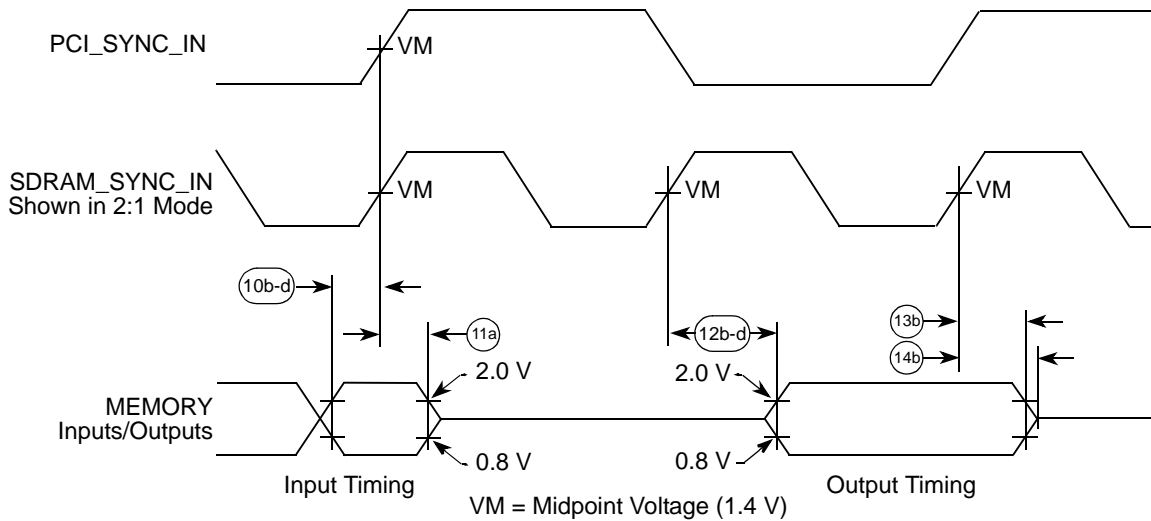
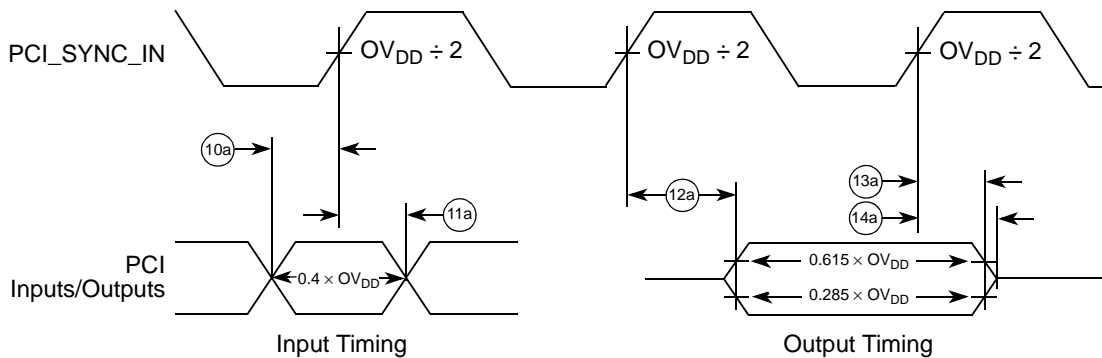
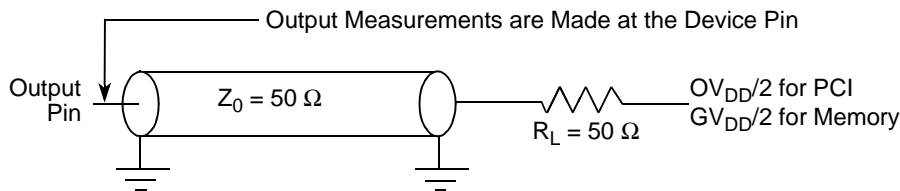
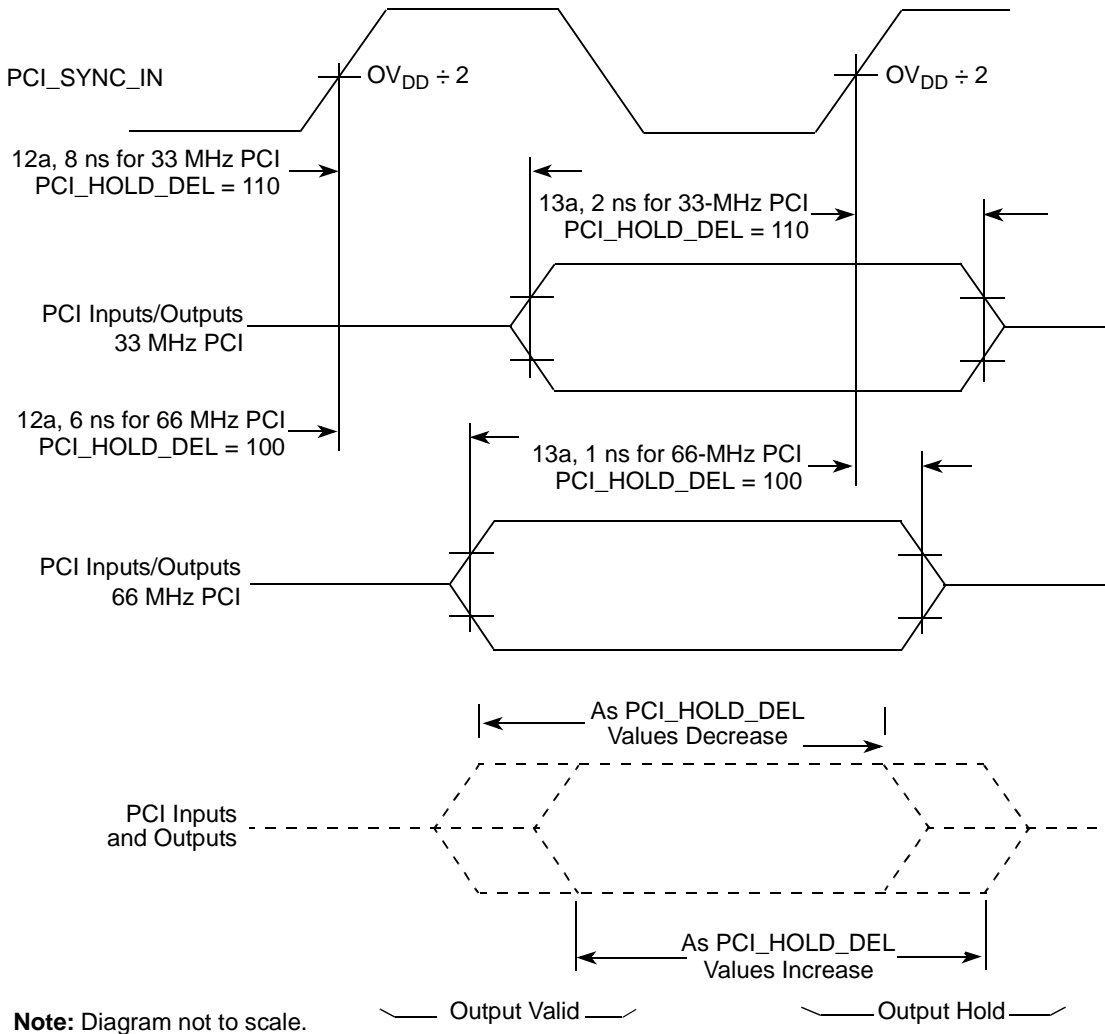

Figure 8. Input-Output Timing Diagram Referenced to SDRAM_SYNC_IN
Figure 9. Input-Output Timing Diagram Referenced to PCI_SYNC_IN
Figure 11. AC Test Load for the MPC8240
Figure 12. PCI_HOLD_DEL Effect on Output Valid and Hold Time
Table 8 provides the input AC timing specifications. See Figure 8 and Figure 9 for the input-output timing diagrams referenced to SDRAM_SYNC_IN and PCI_SYNC_IN, respectively.
- All memory and related interface input signal specifications are measured from the TTL level (0.8 or 2.0 V) of the signal in question to the $V_M = 1.4 \text{ V}$ of the rising edge of the memory bus clock, SDRAM_SYNC_IN. SDRAM_SYNC_IN is the same as PCI_SYNC_IN in 1:1 mode, but is twice the frequency in 2:1 mode (processor/memory bus clock rising edges occur on every rising and falling edge of PCI_SYNC_IN). See Figure 8.
- All PCI signals are measured from $OV_{DD}/2$ of the rising edge of PCI_SYNC_IN to $0.4 \times OV_{DD}$ of the signal in question for 3.3-V PCI signaling levels. See Figure 9.
Table 9 provides the processor bus AC timing specifications for the MPC8240. See Figure 8 and Figure 9 for the input-output timing diagrams referenced to SDRAM_SYNC_IN and PCI_SYNC_IN, respectively. Figure 11 shows the AC test load for the MPC8240.
- All memory and related interface output signal specifications are specified from the $V_M = 1.4 \text{ V}$ of the rising edge of the memory bus clock, SDRAM_SYNC_IN to the TTL level (0.8 or 2.0 V) of the signal in question. SDRAM_SYNC_IN is the same as PCI_SYNC_IN in 1:1 mode, but is twice the frequency in 2:1 mode (processor/memory bus clock rising edges occur on every rising and falling edge of PCI_SYNC_IN). See Figure 8.
- All PCI signals are measured from $OV_{DD}/2$ of the rising edge of PCI_SYNC_IN to $0.285 \times OV_{DD}$ or $0.615 \times OV_{DD}$ of the signal in question for 3.3-V PCI signaling levels. See Figure 9.
- All output timings assume a purely resistive 50-Ω load (see Figure 11). Output timings are measured at the pin; time-of-flight delays must be added for trace lengths, vias, and connectors in the system.
- PCI hold times can be varied; see Section 1.4.2.4.1, "PCI Signal Output Hold Timing," for information on programmable PCI output hold times. The values shown for item 13a are for PCI compliance.
| 6–4 | PCI_HOLD_DEL | xx0 | <p>PCI output hold delay values relative to PCI_SYNC_IN. The initial values of bits 6 and 5 are determined by the reset configuration pins \overline{MCP} and CKE, respectively. As these two pins have internal pull-up resistors, the default value after reset is 0b110.</p> <p>Although the minimum hold times are guaranteed at shown values, changes in the actual hold time can be made by incrementing or decrementing the value in these bit fields of this register through software or hardware configuration. The increment is in approximately 400-picosecond steps. Lowering the value in the 3-bit field decreases the amount of output hold available.</p> <p>000 For Silicon Rev. 1.0/1.1: 66-MHz PCI. Pull-down CKE configuration pin with a 2-kΩ or less value resistor. This setting guarantees the minimum output hold (item 13a) and the maximum output valid (item 12a) times as specified in Figure 9 are met for a 66-MHz PCI system. See Figure 12.</p> <p>001 Reserved</p> <p>010 Reserved</p> <p>011 Reserved</p> <p>100 For Silicon Rev. 1.2/1.3: 66-MHz PCI. Pull-down CKE configuration pin with a 2-kΩ or less value resistor. This setting guarantees the minimum output hold (item 13a) and the maximum output valid (item 12a) times as specified in Figure 9 are met for a 66-MHz PCI system. See Figure 12.</p> <p>For Silicon Rev. 1.0/1.1: 33-MHz PCI. This setting guarantees the minimum output hold (item 13a) and the maximum output valid (item 12a) times as specified in Figure 9 are met for a 33-MHz PCI system. See Figure 12.</p> <p>101 Reserved</p> <p>110 For Silicon Rev. 1.2/1.3: 33-MHz PCI. This setting guarantees the minimum output hold (item 13a) and the maximum output valid (item 12a) times as specified in Figure 9 are met for a 33-MHz PCI system. See Figure 12. (Default if reset configuration pins left unconnected.)</p> <p>For Silicon Rev. 1.0/1.1: Default if reset configuration pins left unconnected.</p> <p>111 Reserved</p> |
Figure 12 shows the PCI_HOLD_DEL effect on output valid and hold time.